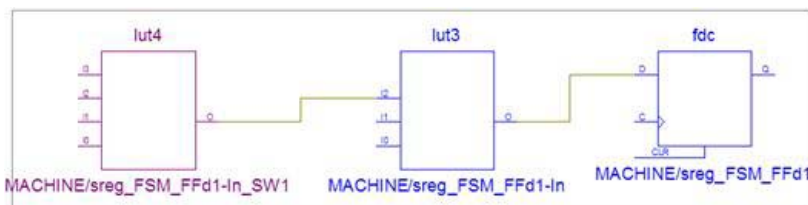

Figure 4-9: Example Schematic
1. Select the I2 pin of the lut3 primitive, and select **Show Next Drive (Output) Pin** from the context menu to see its driver. The following schematic appears, as shown in Figure 4-9.